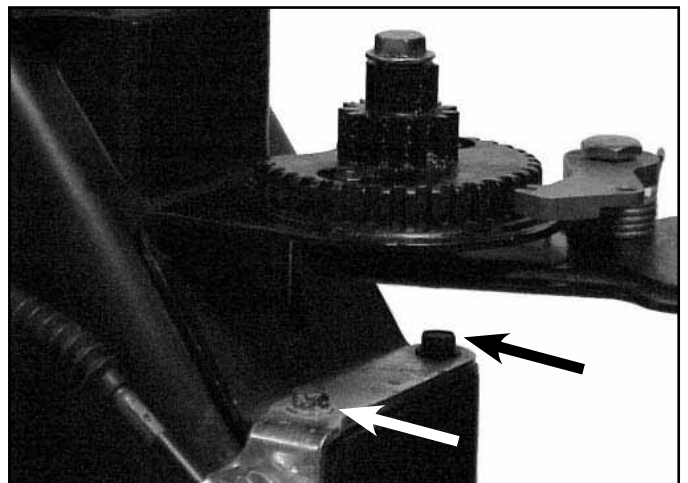

Fig 209
4. Remove two screws that secure the cable clamp bracket and the chute support bracket to the chute (Fig. 209). Leave the cable clamped to the bracket unless the cable is to be replaced and set aside.